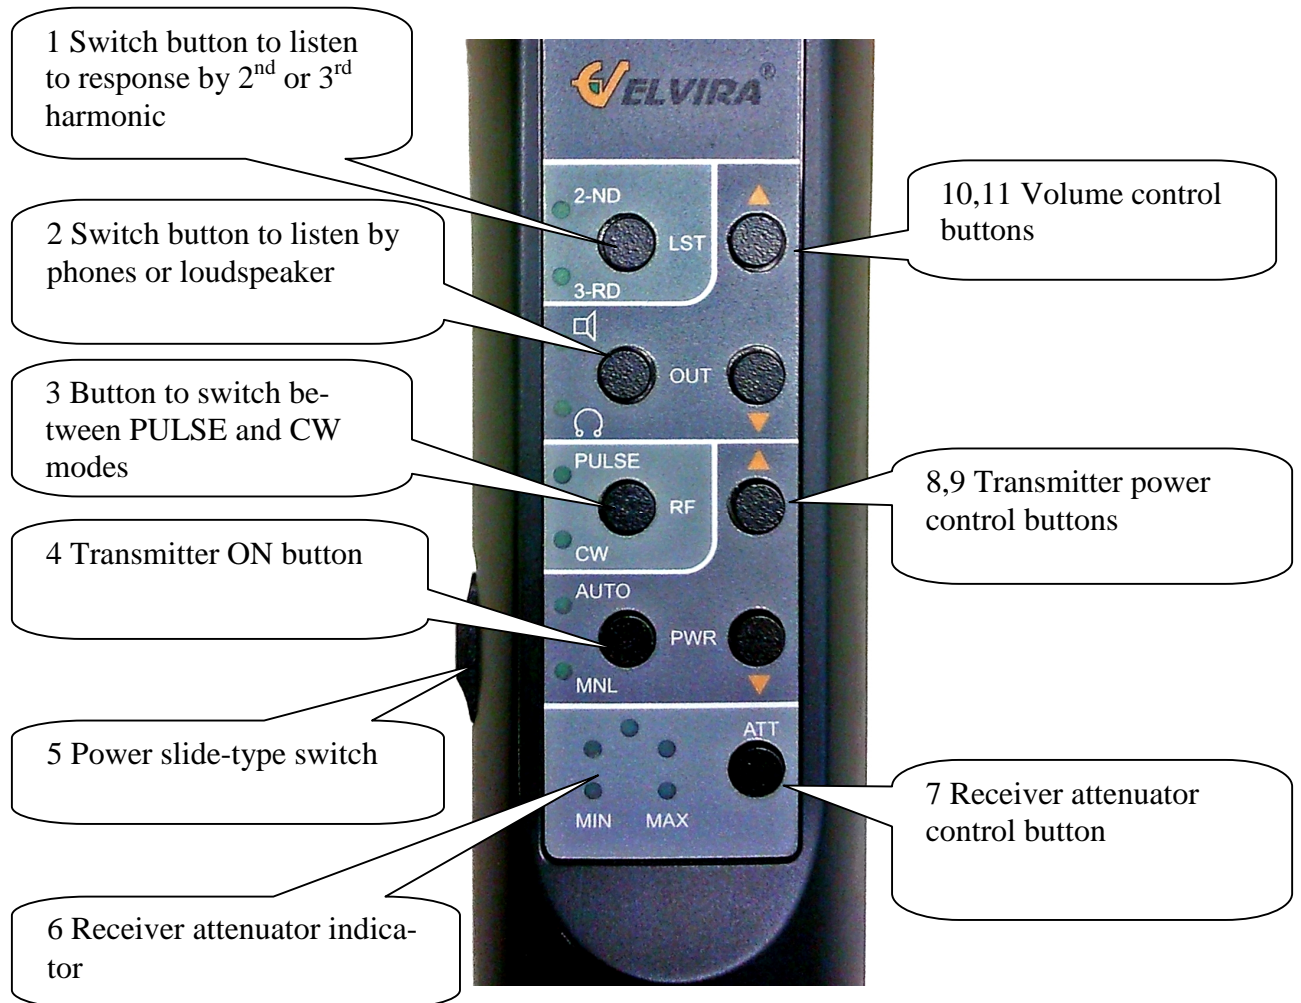

Fig. 5 Control Panel
4.3. The control panel with a power supply is used to control operation of NLJD. It consists of the housing used as an arm into which a changeable battery is put. The control board, buttons for operation modes control and display LEDs are placed in the housing. The control buttons are divided into two groups by their function: «AUDIO» placed in the upper half of the panel and «POWER RF» in the lower half. The control panel is shown in Fig.5.
6.2. Turn NLJD on by the type-slide switch placed on the arm. The 2nd and 3rd indicators on the control panel will light up, indicating that NLJD has been powered on. One yellow LED should be lightening on the antenna unit (a circle scale of the probing signal power indicator). Its initial position corresponds to the maximum power of the probing signal in the automatic mode. Here the probing signal transmitter is off (it is turned on after pressing PWR button only). The 2nd and 3rd harmonics indicators should not light (flashing of the first LEDs of the 2nd and 3rd scales is permitted). Maximum power level can be changed using the power control buttons of the transmitter (Fig.5).